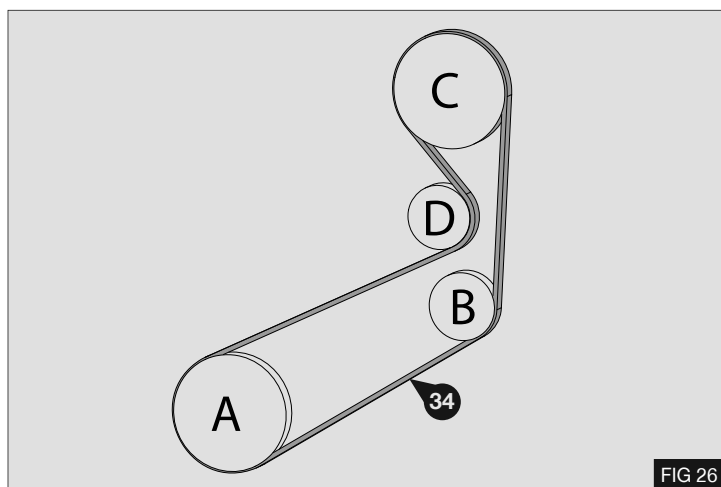

FIG 26
1. Install the compressor drive belt (34) - Fig 26